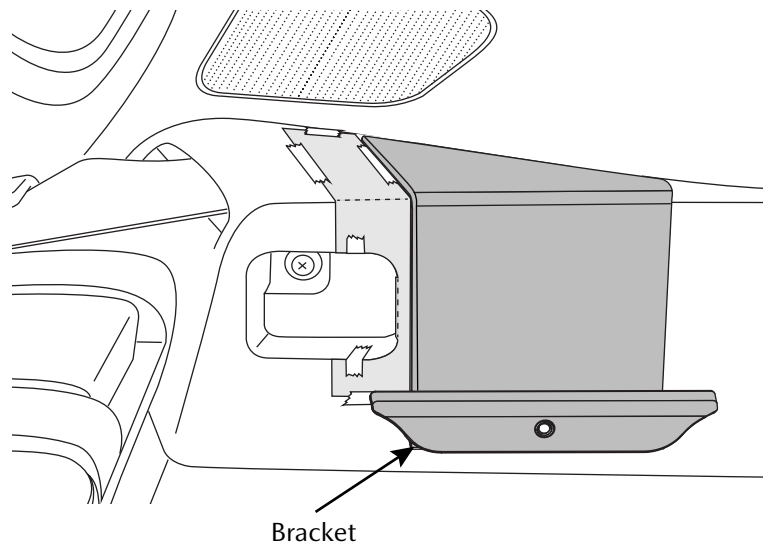

Figure 7
- C. Apply light pressure to the tape areas (Figure 7).